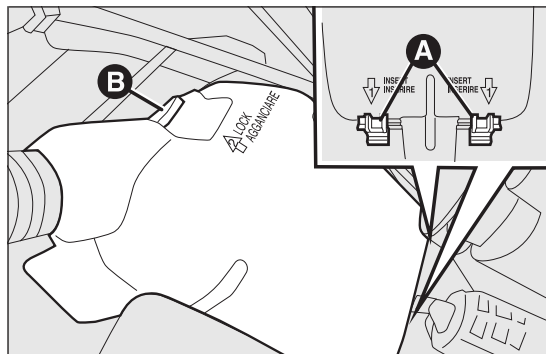

fig. 172
- ❑ insert the two tabs A fig. 172 in the respective seats located on the fuse box;